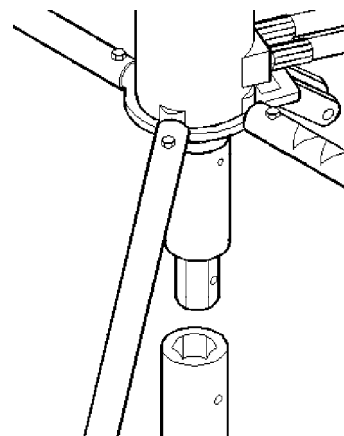

Figure 2. Installing Auger to model EA08102A
Align the hole on the auger chuck with the hole in the coupler (15). Slide the auger chuck into the coupler. Secure it using a 3/8 inch long bolt and a nut. See figure 2.